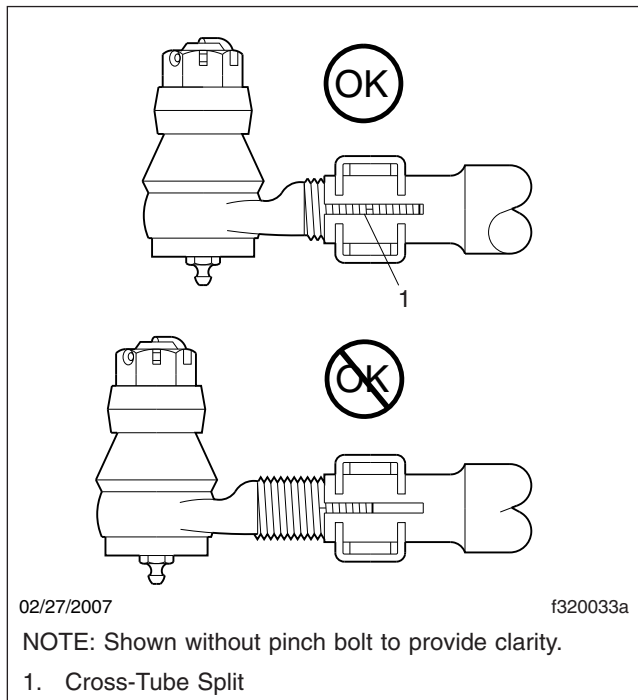

Fig. 5, Tie-Rod End Adjustment
4. The threaded portion of the tie-rod end assembly must be inserted all the way into the cross-tube split for adequate clamping; see Fig. 5. Replace the components if this cannot be done; see **Group 33** of the *122SD and Coronado Workshop Manual*.